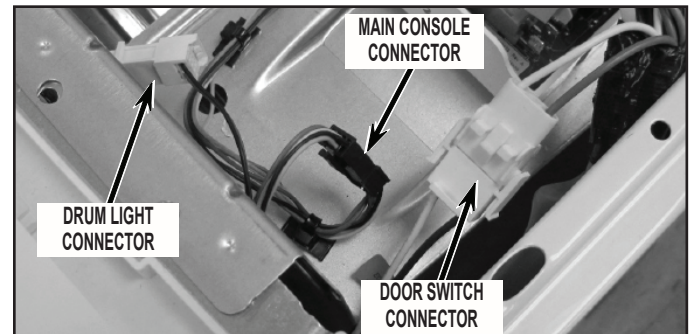

FIGURE 4
5. Disconnect drum light and main console connectors as shown in *Figure 4* located on top right front side of dryer. Lift up on console and tilt assembly forward to remove console.
- Disconnect door switch connector located on top right front side of dryer. See *Figure 4*.